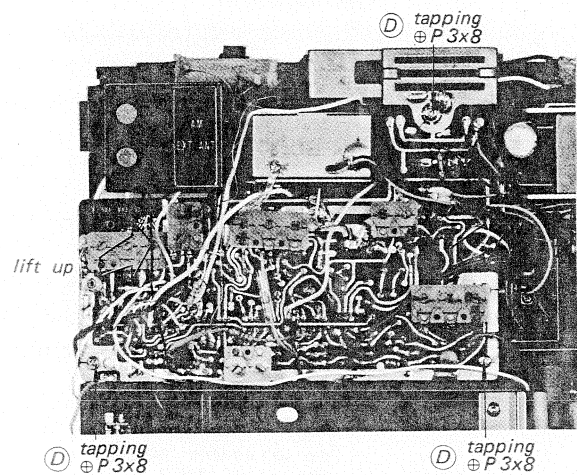

Fig. 2-5. Cp circuit board removal
3. Remove the three screws marked ① in Fig. 2-5.
5. Lift up the cp circuit board in the direction shown by the arrow in Fig. 2-5.